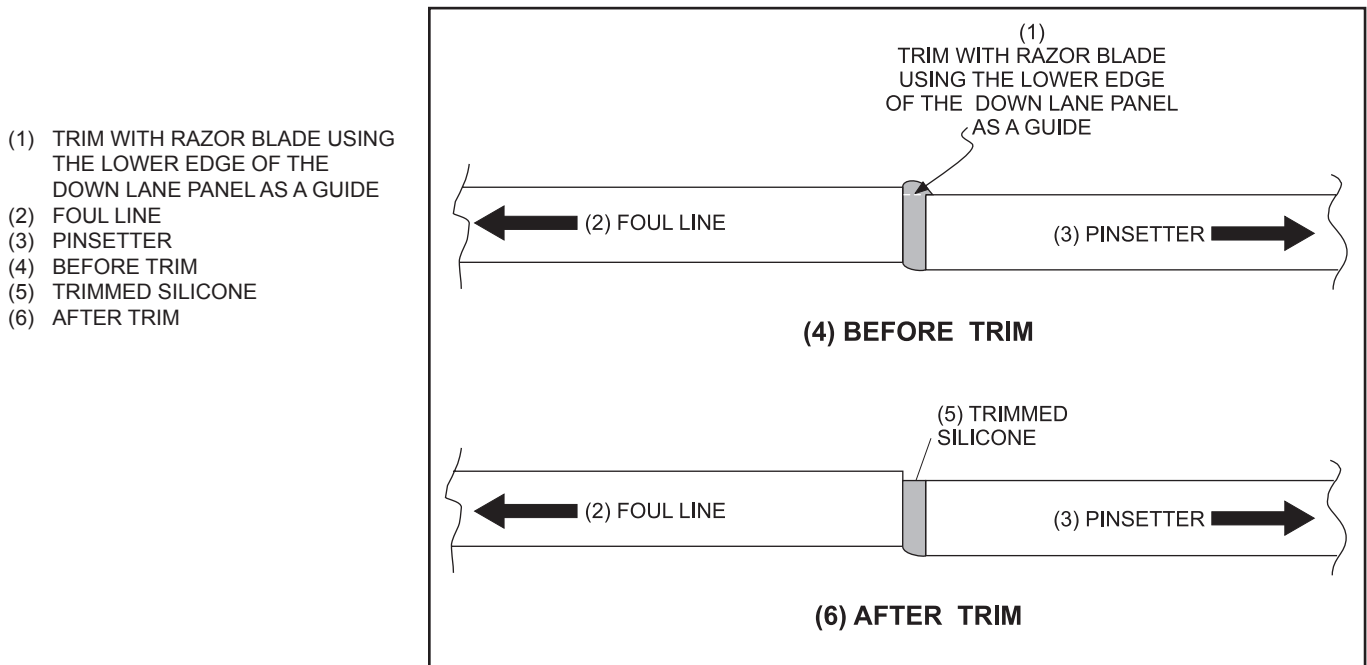

Figure 5.
6. Work the silicone down into the joint with a putty knife so the silicone is into the joint as shown in Figure 5, being careful to not allow any silicone sealer on the lane surface.
8. Before the silicone is fully set up and is still pliable, use a razor blade to trim the silicone so it is flush with the lower edge of the down lane panel surface. Refer to Figure 5.
**i** **IMPORTANT:** Refer to Figure 5 for correct razor blade trimming procedure. Use caution! Do not press blade into panel's edge. Gently trim the silicone only.